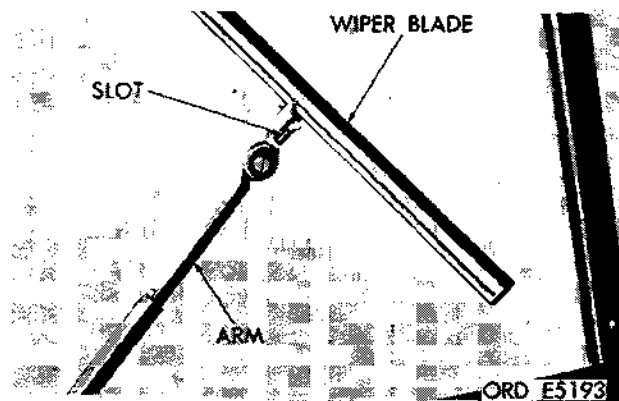
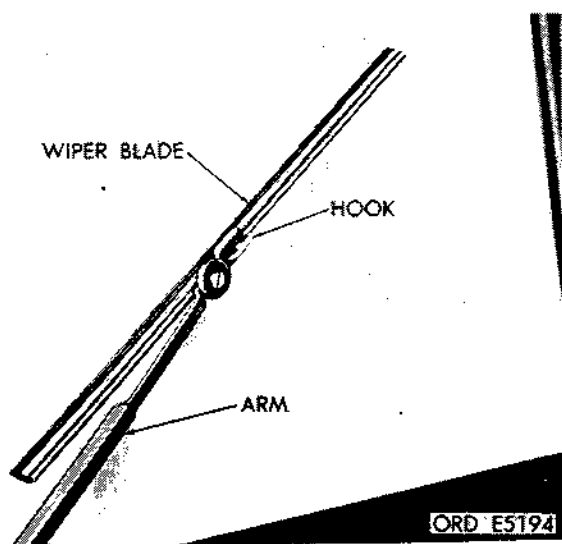

Figure 2-385. Unhook wiper blade from slot in wiper arm (M151, M151A1, M151A1C, and M718 vehicles).
Figure 2-386. Position new blade with hook pointed outward (M151, M151A1, M151A1C, and M718 vehicles).
a. *Removal.* Lift wiper arm so blade clears windshield. Grasp inner end of blade and swing around one-half circle to unhook from slot in wiper arm (fig. 2-385).
b. *Installation.* Position new blade as shown in figure 2-385 with hook pointed inward. Hook into eye of wiper arm and swing through one-half circle and secure with hook pointed outward (fig. 2-386). Drop wiper onto windshield.